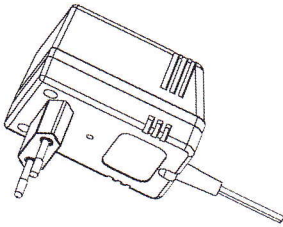
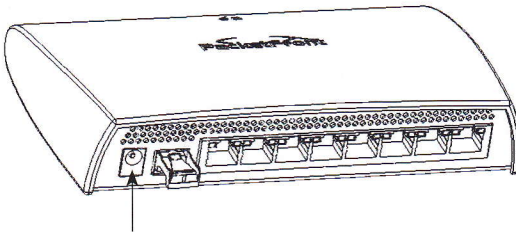

Figure 5. Power Supply Unit
Figure 6. Power port on the CPS
1. Connect the power cable from the Power Supply Unit (figure 5) to the CPS port labelled “power” (Figure 6).